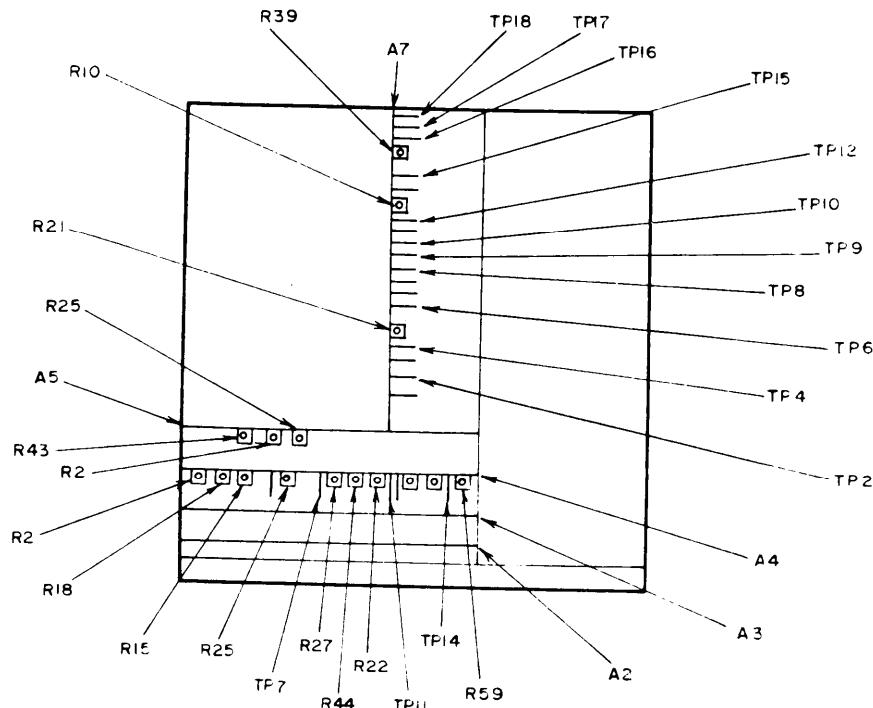

Figure 1. Test instrument mainframe - adjustment locations.
- (1) Connect multimeter to A4TP7 (-) and A4TP11 (+) (fig. 1).
(2) Press **CW** key and enter data **0 MHz** on keyboard. Multimeter will indicate between -0.004 and +0.004 V dc.
(3) Enter data **5 GHz** on keyboard. Multimeter will indicate between 4.996 and 5.004 V dc.
(4) Enter data **10 GHz** on keyboard. Multimeter will indicate between 9.996 and 10.004 V dc.
(1) Connect multimeter to A4TP7 (-) and A4TP14 (+) (fig. 1). Adjust A4R59 (fig. 1) for multimeter indication of 10.0000 V dc (R).
(2) Disconnect multimeter from TI and connect frequency counter to **POS Z BLANK** (rear panel).
(3) Press function keys and enter corresponding data on keyboard as listed in (a) and (b) below:
(4) Adjust A5R2 (fig. 1) for frequency counter indication of 10.000 ms (R).
(5) Press function keys and enter corresponding data on keyboard as listed in (a) and (b) below:
(6) Adjust A5R25 (fig. 1) for frequency counter indication of 1000 ms (R).
(7) Disconnect frequency counter from TI and connect multimeter to A4TP7 (-) and A4TP11 (+) (fig. 1).
(8) Press function keys and enter corresponding data on keyboard as listed in (a) through (f) below:
(9) The **FREQUENCY/TIME**, display will indicate **FE**. Adjust A5R43 (fig. 1) for multimeter indication of 110 V dc (R).
(10) Press function key and enter corresponding data on keyboard as listed in (a) through (e) below:
(11) The **FREQUENCY/TIME** display will indicate 01. Adjust A4R44 (fig. 1) for multimeter indication of -0.20508 V dc (R).
(12) Enter data **BKSP** on keyboard. The **FREQUENCY/TIME** display will indicate **FF**. Adjust A4R22 (fig. 1) for multimeter indication of -0.19492 V dc (R).
(13) Enter data **80** on keyboard. The **FREQUENCY/TIME** display will indicate 80 and the multimeter will indicate -0.2000 V dc.
(14) Press function keys and enter corresponding data on keyboard as listed in (a) and (b) below:
(15) Adjust A4R27 (fig. 1) for multimeter indication of 10.2000 V dc (R).
(16) Press function keys and enter corresponding data on keyboard as listed in (a) through (c) below:
- (17) Adjust A4R25 (fig. 1) for multimeter indication of 10.2000 V dc (R).
- (18) Enter data -200 MHz on keyboard. Adjust A4R2 (fig. 1) for multimeter indication of -0.2000 V dc (R).
- (19) Press **ΔF** key and enter data **0 GHz** on keyboard. If multimeter does not indicate 5.00000 V dc, press **VERNIER** key and adjust **FREQUENCY VERNIER** control for 5.00000 V dc multimeter indication.
- (20) Press **ΔF** key and enter data **1.299 GHz**. Adjust A4R15 (fig. 1) for multimeter indication of 4.35064 V dc (R).
- (21) Press **ΔF** key and enter data **162.4 MHz** on keyboard. Adjust A4R18 (fig. 1) for multimeter indication of 4.91883 V dc (R).
- (1) Connect multimeter to A7TP16 (-) and A7TP15 (+) (fig. 1). If multimeter does not indicate between 19.990 and 20.010 V dc, perform **b** (1) below.
- (2) Disconnect multimeter from A7TP16 and A7TP15. Connect to A7TP17 (-) and A7TP18 (+) (fig. 1). If multimeter does not indicate between -39.980 and -40.020 V dc, perform **b** (2) below.
- (3) Disconnect multimeter from A7TP17 and A7TP18. Connect to A7TP8 (-) and A7TP9 (+) (fig. 1). If multimeter does not indicate between -9.995 and -10.005 V dc, perform **b** (3) below.
- (1) Adjust A7R10 (fig. 1) for multimeter indication of 20.000 V dc (R).
- (2) Adjust A7R39 (fig. 1) for multimeter indication of -40.000 V dc (R).